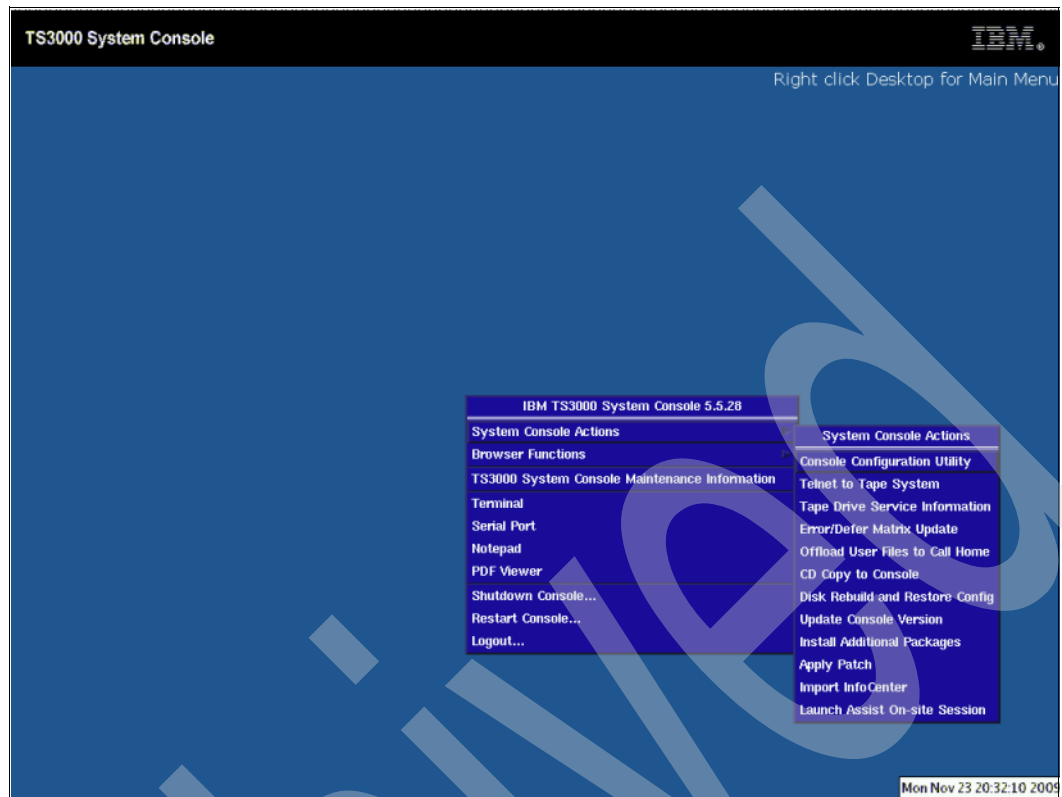

Figure 6-4 TSSC System Console Actions
4. Select **System Console Actions** and from here select **Console Configuration Utility**. See Figure 6-4 on page 96.